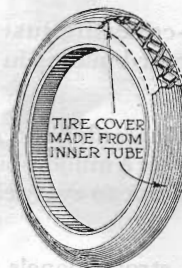

Fig. 5. An old inner tube will disguise your new spare tire so it will look old
**A**N OLD inner tube that you may have on hand will make a good cover for the spare tire (Fig. 5). At a distance of a few feet it gives the appearance of an old tire that is worn smooth or has been retreaded, and thieves are likely to pass it by. Cut the stem out of the old tube and slit it all the way around. The tension in stretching it into place over the shoe will make it fit snugly without wrinkles.